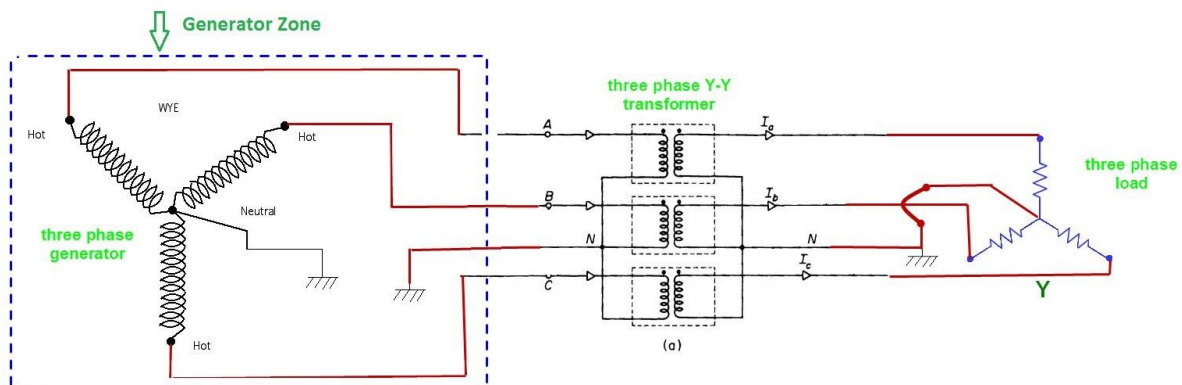

Figure 2. 3-Phase connection of Power Generator in Power System
In the 3-phase system, each connection is either in Star (Y) connection, or Delta connection. The generator, transformer and load connections in the 3-phase power system are shown in figure 2. The generator zone boundary is also shown in figure 2.